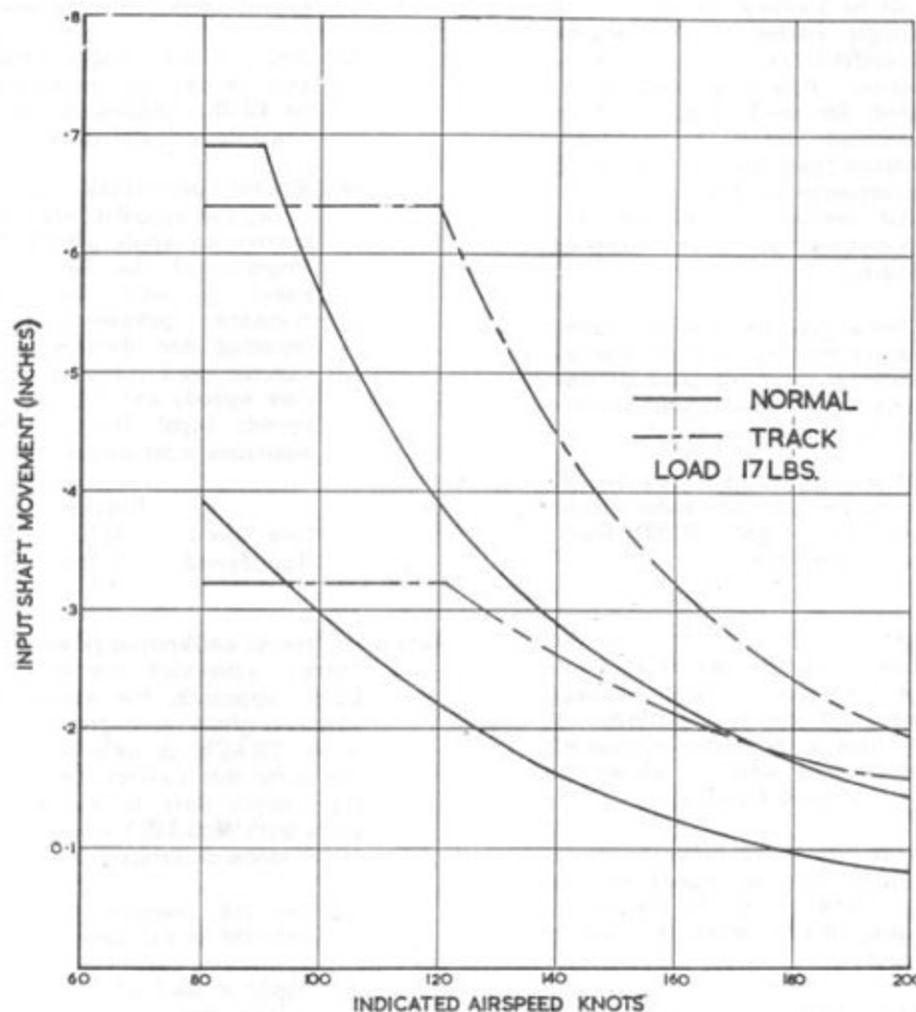

Fig.3 Elevator A.F.U. Auto-pilot (Track) calibration limits
- (8) During auto-pilot control on an I.L.S. approach, the elevator feel unit is given a degree of relief when TRACK is selected. The limits for this calibration shown in fig.3 apply only to elevator feel units with Mod.1073 embodied. To check track calibration:-
- (c) Increase airspeed from cut-in speed to 200 knots in 10 knot increments and plot input shaft movement at each speed using calibration sheet fig.3. Check that the graph plotted is within the NORMAL limit lines.